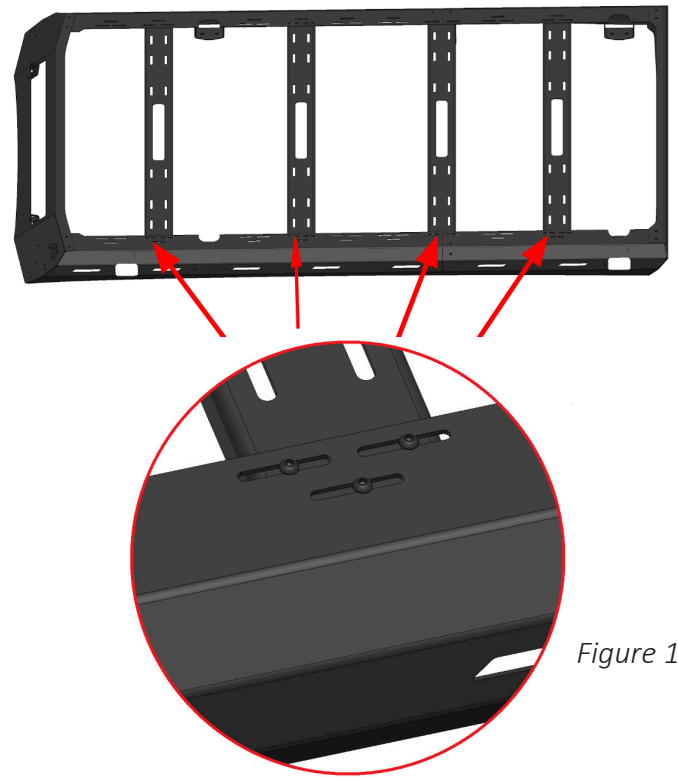

Figure 10
9. Place the 4x crossbars where desired along the frame and use the 6x M6 BHCS and 6x M6 flange nuts per crossbar to attach them. Place a small amount of the provided 242 Loctite on each bolt before installation. Figure 10.